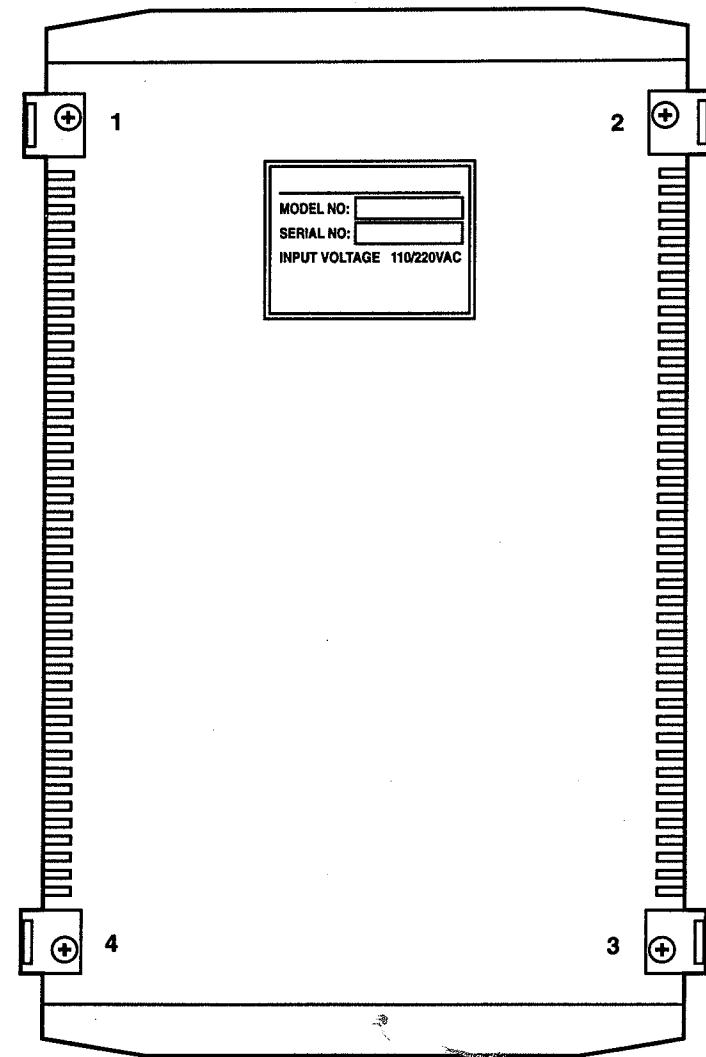

Figure C-1. Locations of the screws that must be removed.
2. Examine the bottom of the unit you're going to work on. Use a Phillips screwdriver to unscrew the four screws—one in the center of each of the unit's legs, as shown in Figure C-1 on the next page—until they're loose, then remove and set aside the legs.